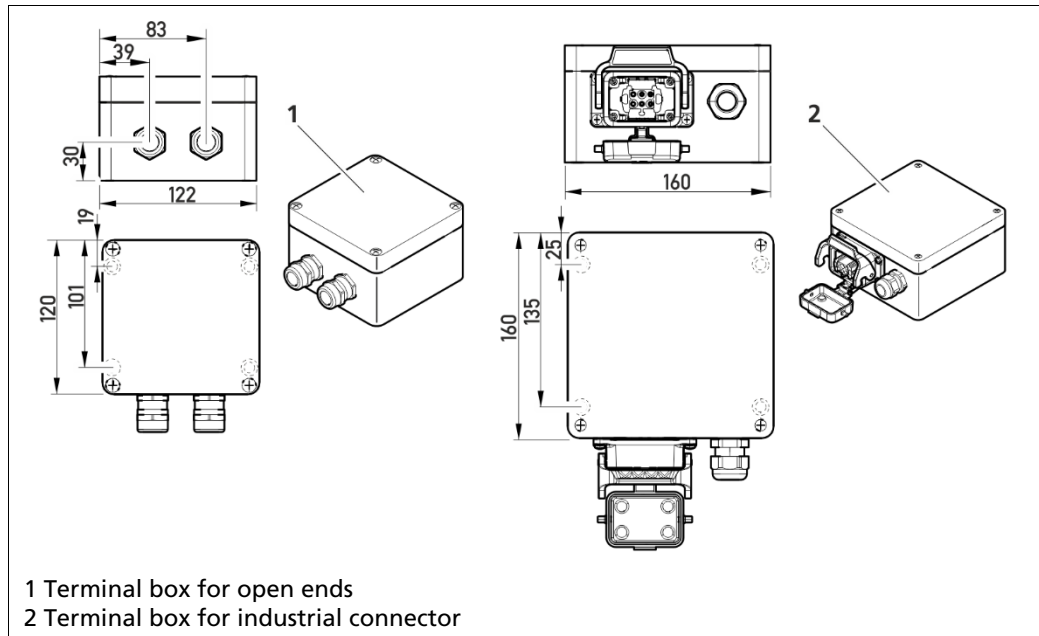

Fig.2 Terminal box for detectors
The detectors and the EVU are to be connected via the terminal box. This connection is to be made with a standard 6-wire shielded cable (6 x 0.5 mm²) with a maximum length of up to 1000 m. As required, the terminal box can be ordered for open ends (Mat. No. 07005, Fig.2, item 1) or with an industrial connector (Mat. No. 34787, Fig.2, item 2).